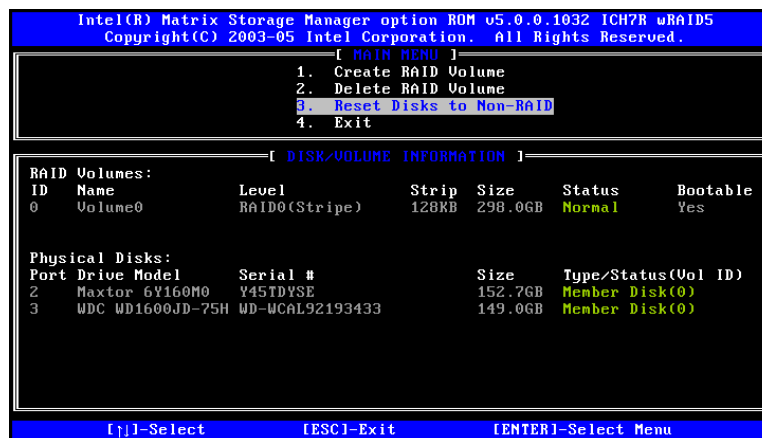

Figure E-12: Reset Disk to Non-RAID Menu
Step 1: Select "Reset Disk to Non-RAID." Use the arrow keys to highlight **Reset Disk to Non-RAID** and press **ENTER**. See **Figure E-12**.